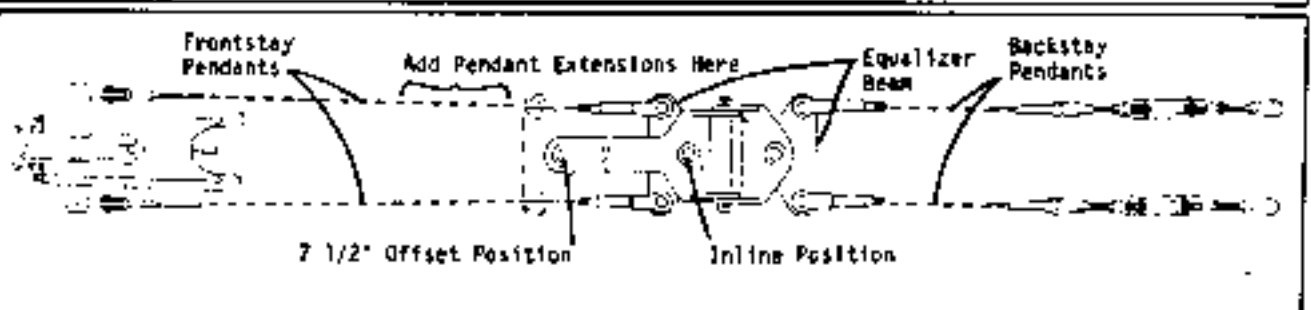

Fig. 4-59
Step 9: Refer to Fig. 4-59. Position equalizer beam pin in either 7-1/2" offset or the inline position.